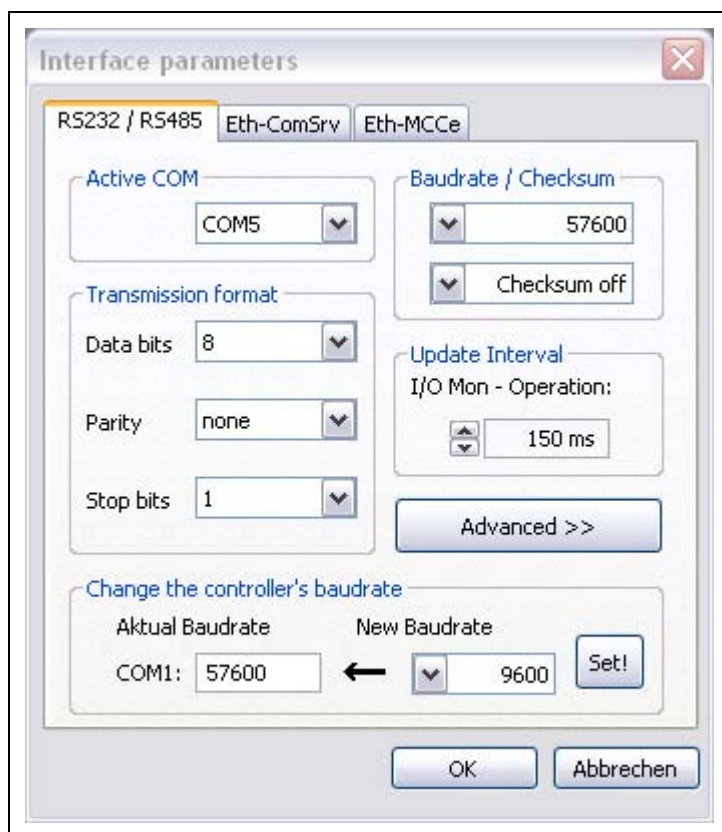

Fig. 28: Interface parameter settings
**Advanced >>** opens the advanced interface dialog. (Fig. 28)